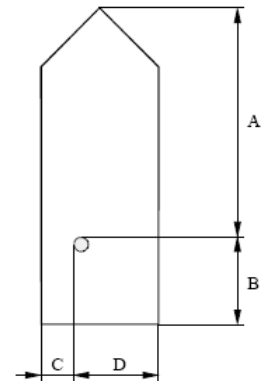

Figure 189
- **Position ref. point**– defines the precise location of the positioning device on the target; four parameters are used: A, B, C, and D (Figure 189);